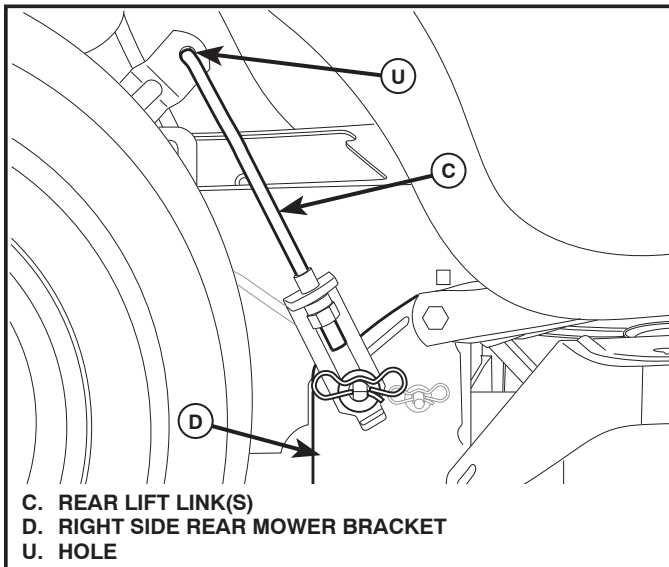

Fig. 29
7. ATTACH REAR LIFT LINKS (C) (See Fig. 29)
- Insert rod end of rear lift link (C) into hole (U) in tractor lift shaft suspension arm and pivot link down to mower.
- Lift rear corner of mower and position slot in link assembly over pin on rear mower bracket (D) and secure with large washer and large retainer spring.